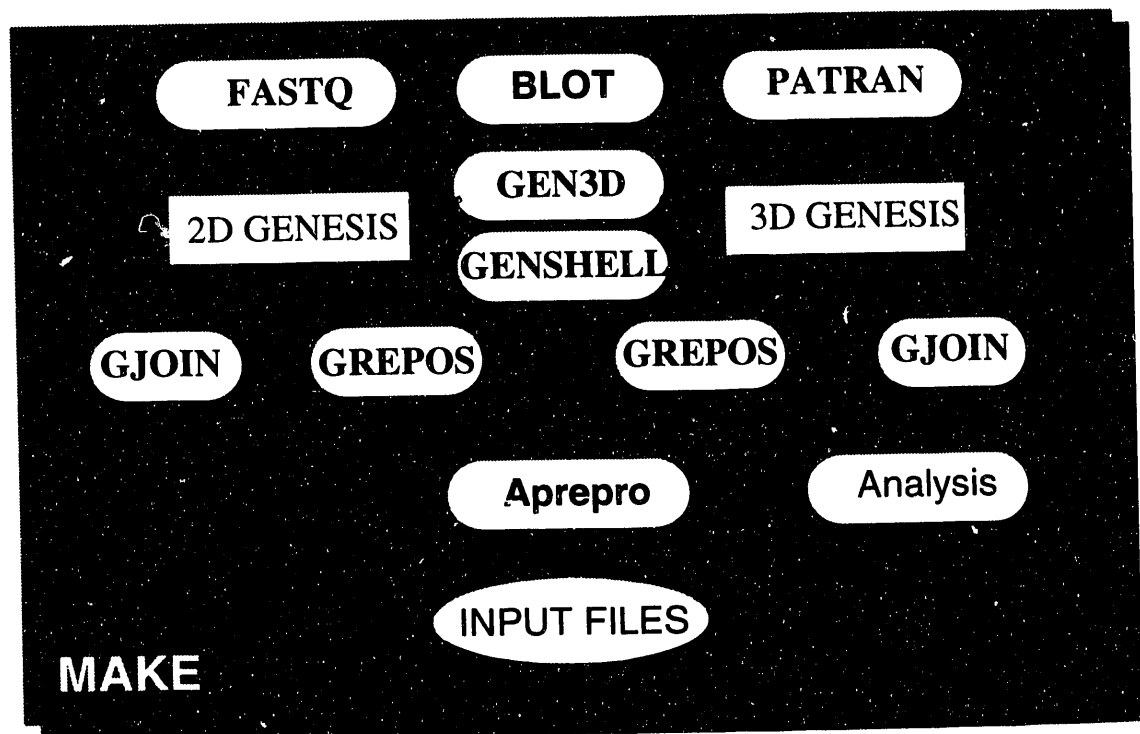

Figure 1. Schematic of SEACAS Mesh Generation Process
*GENSHELL* is typically used with the other SEACAS mesh generation codes *FASTQ* [2], *GEN3D* [3], *GREPOS* [4], *GJOIN* [5], and *Aprepro* [6]. Figure 1 shows the structure of the SEACAS mesh generation toolbox. The basic premise underlying this toolbox is that complicated geometries can be generated using a set of small specialized codes.